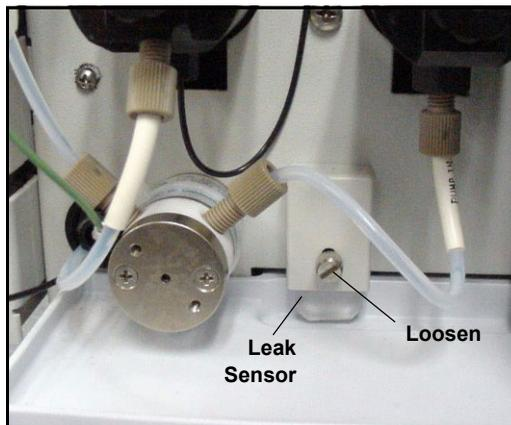

Figure 5-25. Leak Sensor
3. Loosen the screw on the front of the leak sensor (see Figure 5-25). **Note:** The screw remains attached to the sensor.